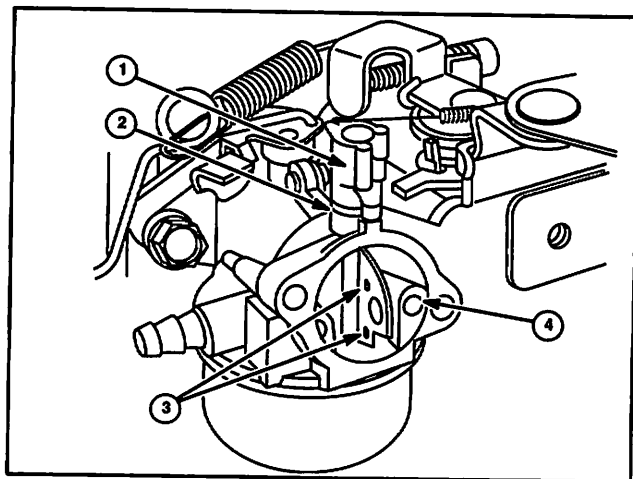

Fig. 110
1. Install choke shaft (1) and felt washer (2).
2. Rotate choke shaft lever as shown in Fig. 110.
3. Insert choke plate in slot of choke shaft until valve is centered on choke shaft with dimples (3) toward main air jet (4).
NOTE: On Choke-A-Matic® carburetors install spring on choke shaft as shown in Fig. 110.